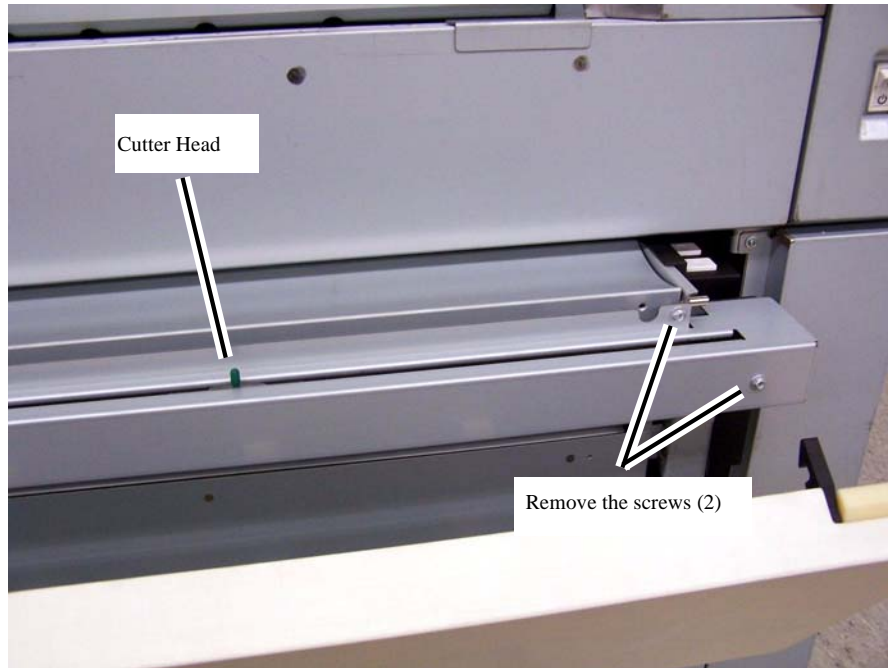

Figure 3 Removing the Cutter Cover right hand screws
- b. Remove the screws (2) at the right end of the Cutter Cover (Figure 3).